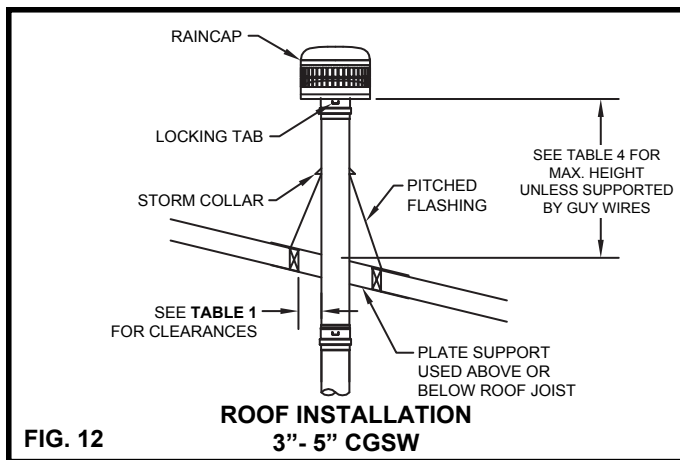

FIG. 12
6. Above the roof, a flashing and storm collar are required. Use high temperature sealant to seal the storm collar to the vent so that rain will not penetrate the roof opening (See FIG. 12, 13 & 14).